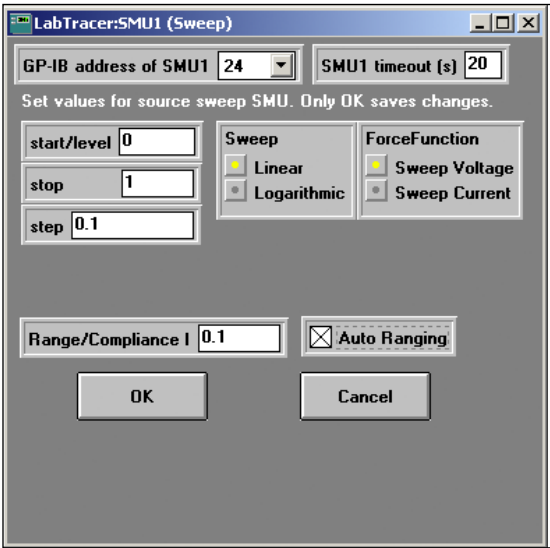

Figure 6. SMU1 Setup
- 4. **Figures 6 and 7** illustrate the dialog boxes used to set up the SourceMeter instruments. Note that the dialog boxes for the two SMUs are very similar.